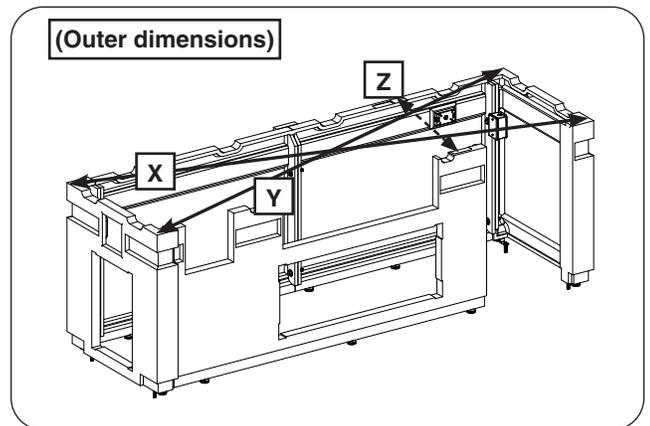

Fig. 11-2 Square unit (then tighten all bolts)
- a. Measure the X outer dimension, see Fig. 11-2. It should be approximately:
- b. Measure the Y outer dimension, see Fig. 11-2. Carefully adjust the side walls as needed to ensure the X & Y dimensions are equal. (The final dimension may slightly vary from that mentioned in step a.)
- c. Measure the Z outer dimension, see Fig. 11-2. It should be approximately 30  $\frac{1}{2}$ ".